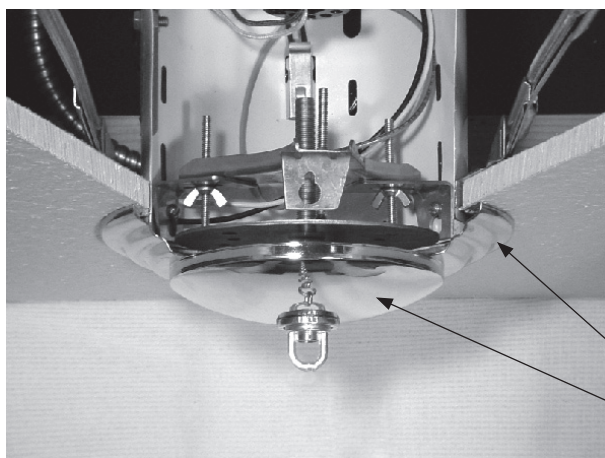
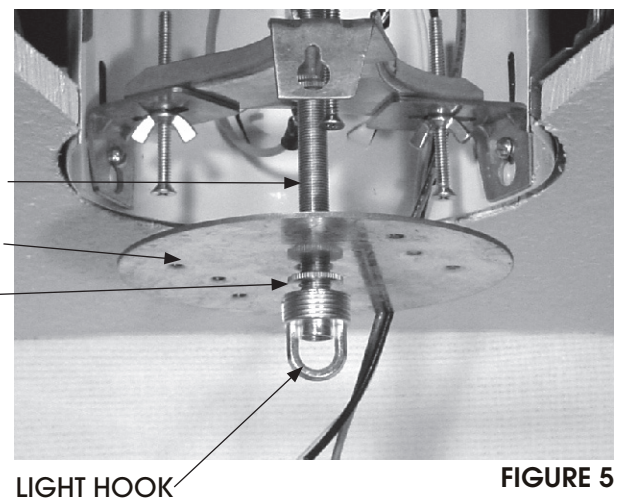

FIGURE 4
FIGURE 5
- STEP 9** Install threaded pipe (G) into center hole on mounting bracket (C) refer to installation instruction provided with fixture on setting threaded pipe depth (IMPORTANT) medallion (H) must be included in setting the depth (SEE FIGURE 4). When depth has been set remove medallion and light canopy and secure threaded pipe (G) with nut (I).Install mounting plate (J) leaving room to make final connection. Install nut (I) on threaded pipe (G) then attach light hook supplied with light fixture. (SEE FIGURE 5). Connect wires using instructions supplied with fixture.